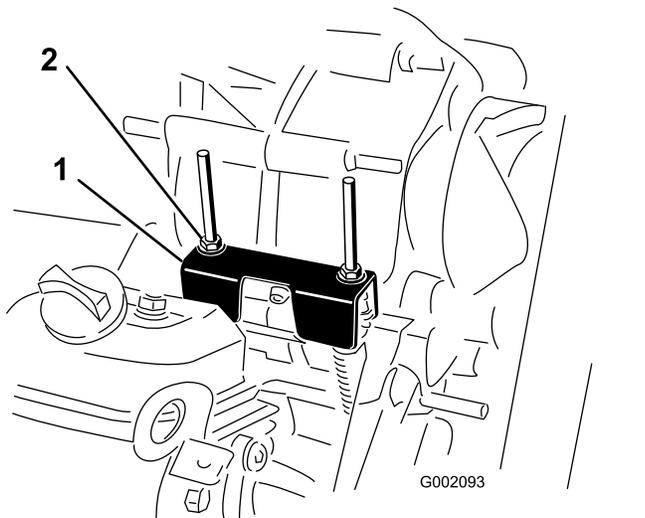

Figure 61
When performing routine maintenance and/or engine diagnostics, the transaxle must be shifted into NEUTRAL (Figure 61). The machine has a NEUTRAL position on the shift lever, which controls the neutral in the transaxle. Perform the following steps to ensure that the neutral shift lever operates the transaxle neutral correctly:
- Ensure that the neutral bracket is in the NEUTRAL position (level to the cable mounting bracket located below the shift bracket) by turning the driven clutch (Figure 61).
- Rotate 1 of the locknuts (Figure 61) to achieve a 0.762 to 1.524 mm (0.030 to 0.060 inch) gap between the bottom of the nut/washer and the neutral bracket.